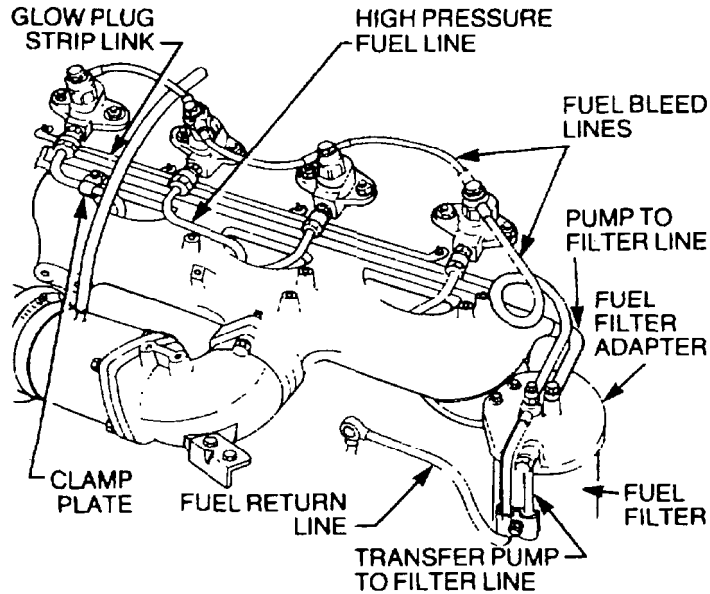

Figure 25 High Pressure Fuel Lines Removal
- e. Loosen the hose clamps securing the return and supply lines to the engine (Figure 25).
- b. Crack open the nut securing the line to the injector to relieve residual pressure and loosen the nut completely (Figure 25).